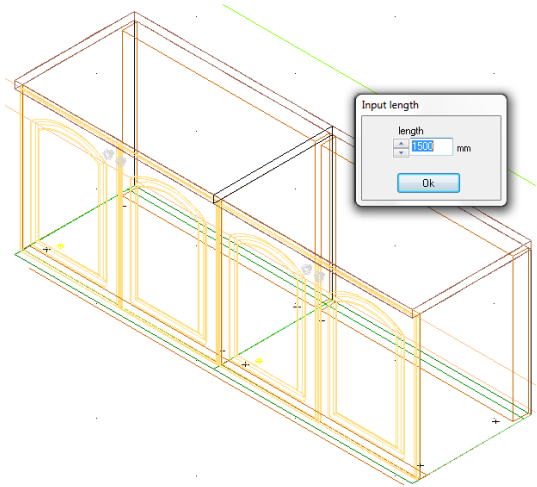

Fig. 209 – cutting typical worktops – project view
- the worktop cut preview is visible in the design together with a dialog where you can enter the length of one of the worktops (Fig. 209),